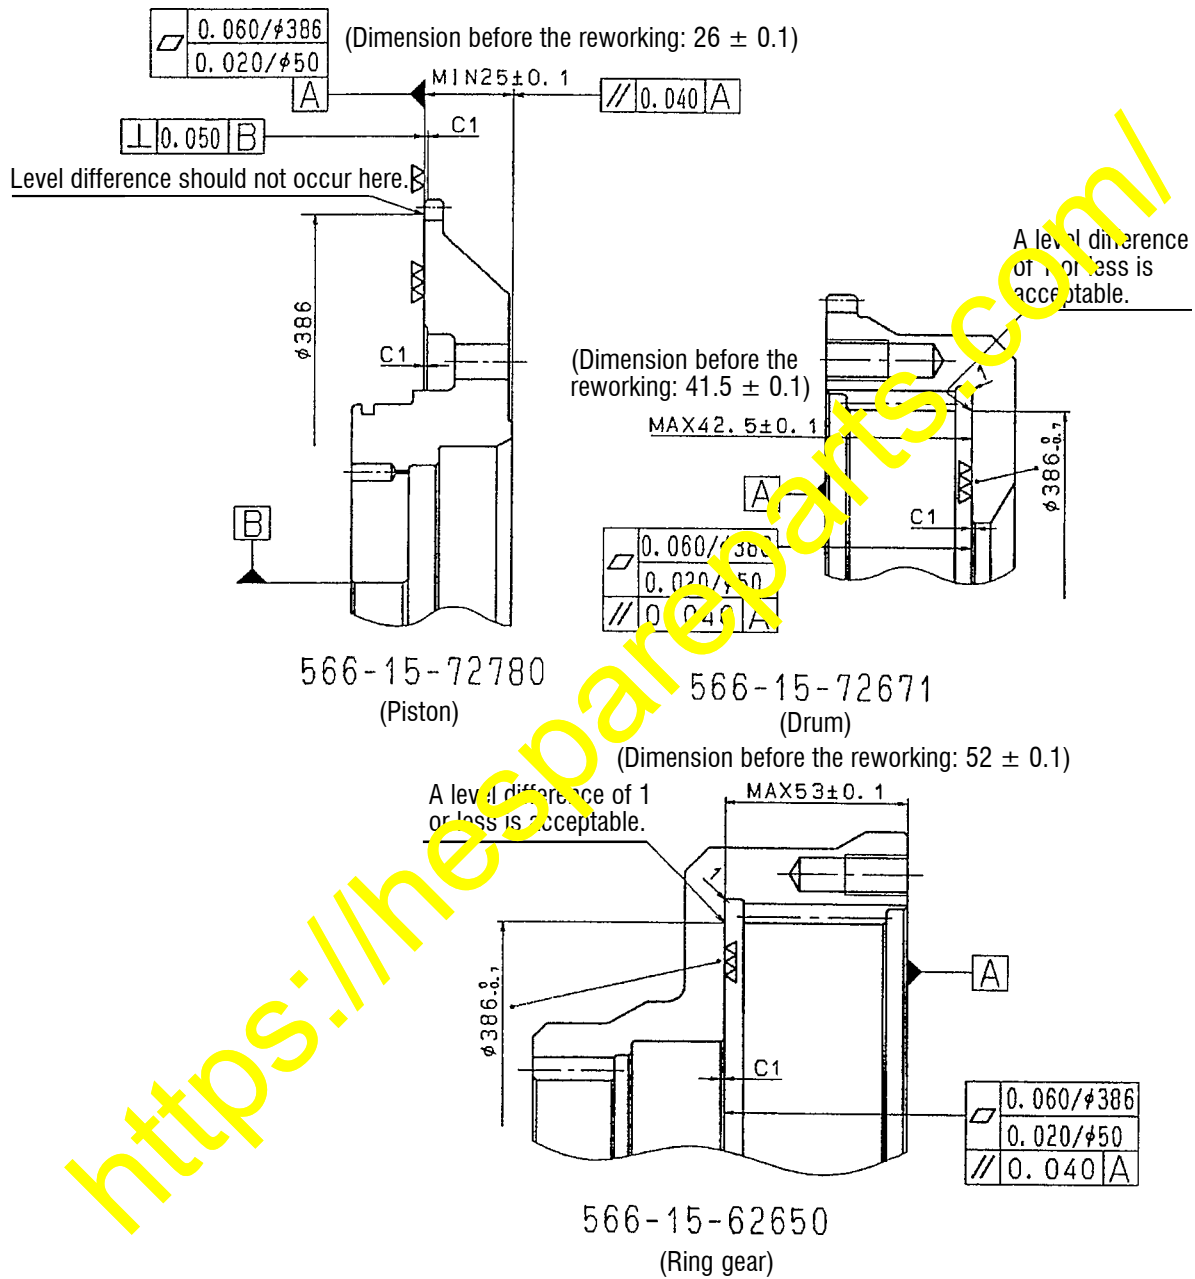

Fig. 2-1. Detailed reworking drawing for the ring gear, piston and drum
- (1) As per the instructions given in Fig. 2-1 shown below, carry out reworking to machine the stepped-typed wear section on the piston (566-15-72780), ring gear (566-15-62650) and drum (566-15-72671) until the stepped-typed wear sections will be removed.